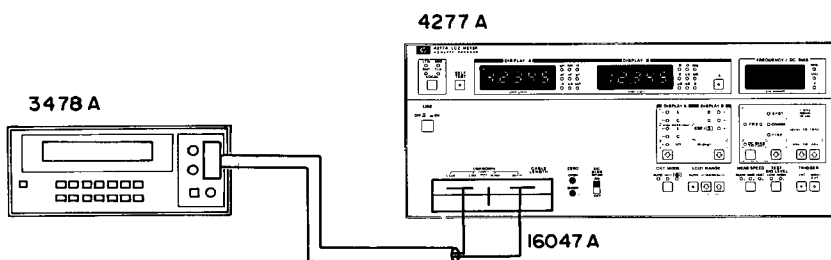

Figure 4-6. Option 001 INT DC Bias Accuracy Test Setup.
1. Interconnect the 4277A, 16047A, and 3478A as shown in Figure 4-6.